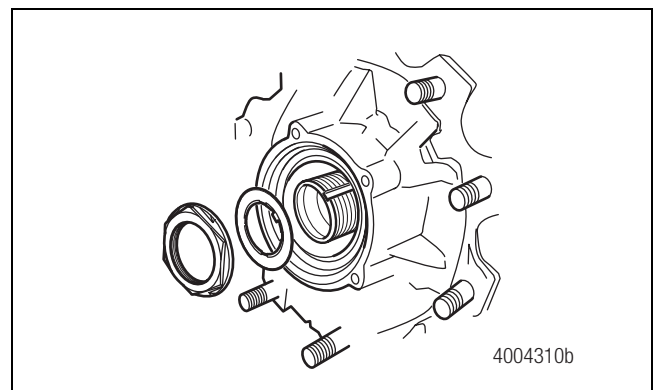

Figure 4.16
2. Remove the spindle nut from the spindle end. Figure 4.16.